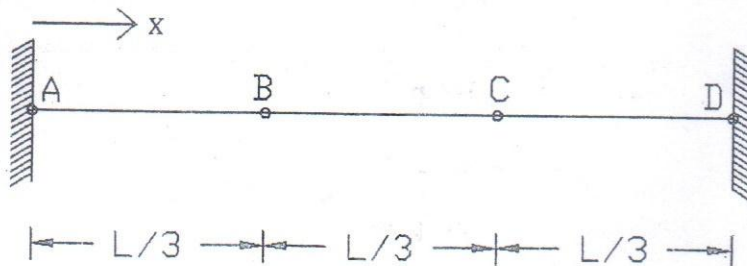

Fig. 3
- (b) Write down a script using recursive algorithm in *Python 3.6.3* for the following series with appropriate specifications and assertions, which will generate summation upto n-th term: (9)
- (c) Briefly discuss categories of bug in programming language? (4)
8. (a) A beam of length $L \text{ ft}$ shown in Fig. 3 is loaded with two different loading arrangements for which equations of bending moments are given below. (9)